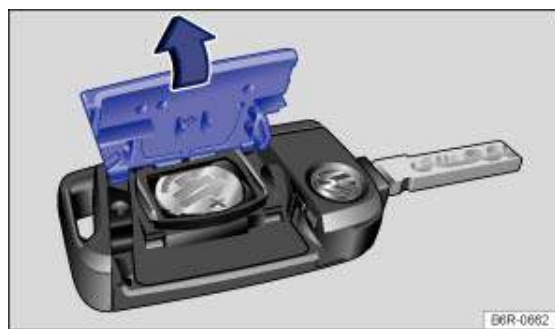

Fig. 24 Vehicle key: opening the battery compartment
- Pull up the cover on the rear side of the vehicle key → *Fig. 24* in the direction of the arrow →  .
- Fit the cover as shown → *Fig. 24* and push it onto the vehicle key housing against the direction shown by the arrow until it engages.